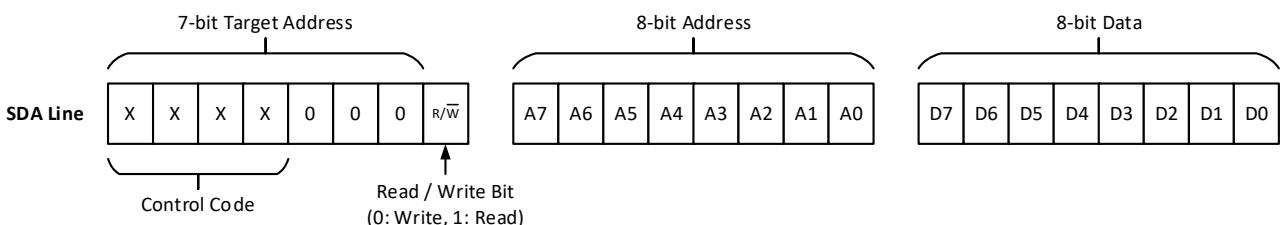

Figure 153. I²C Basic Command Structure
Each command to the I²C serial communications macrocell begins with a ‘START’ condition. The basic command structure of the I²C protocol is shown in Figure 153. After the ‘START’ condition (S), the I²C controller (master) sends 7-bit target (slave) address followed by the R/W bit. The SLG47001-E/03-E allows multiple target addresses by programming the first four bits (‘Control Code’) of the 7-bit target address. Each bit in the ‘Control Code’ can be sourced independently from the I₂C_SLA[3:0] (Reg[1467:1464]) register. When the I₂C_SLA0_SEL (Reg[1468]) and the I₂C_SLA1_SEL (Reg[1469]) registers are set to ‘1’, Bit0 and Bit1 of the ‘Control Code’ are defined by the logic levels of GPIO0 and GPIO2 pins respectively. This gives flexibility in addressing with multiple devices on the same I²C bus. The R/W bit selects whether a read (R/W = 1) or a write (R/W = 0) command is requested. The R/W bit will be followed by an ‘Acknowledge’ bit (ACK), which is sent by the target device to indicate successful communication of the first byte of data.